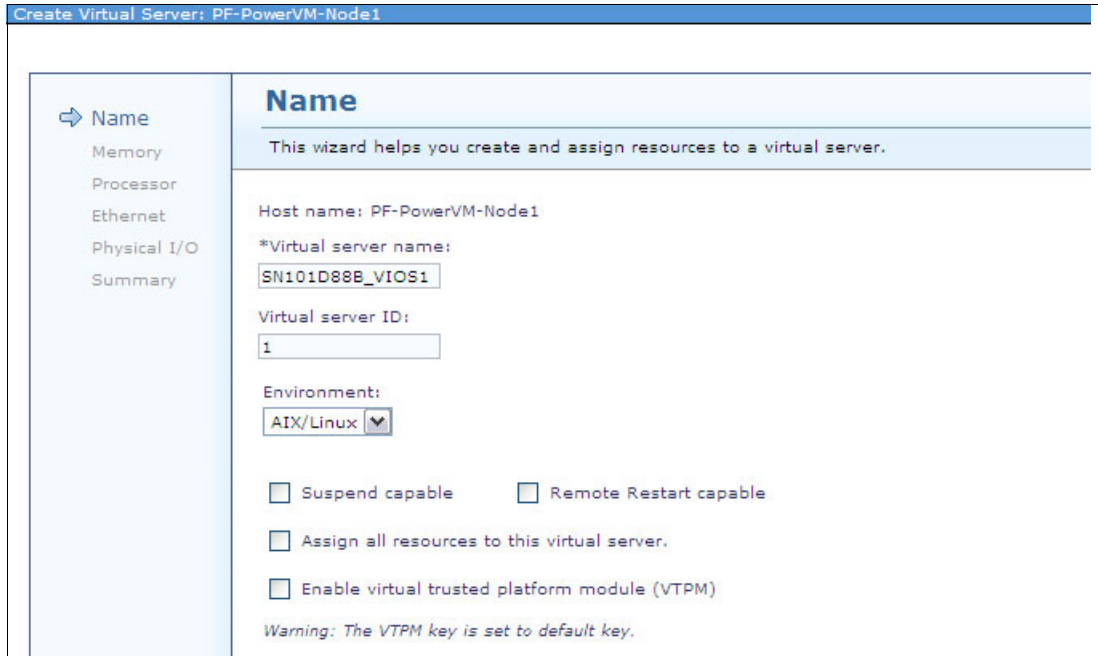

Figure 10-7 Creating the VIOS profile: Name
5. Create the VIOS profile based on your system requirements. Enter the VIOS name, as shown in Figure 10-7.